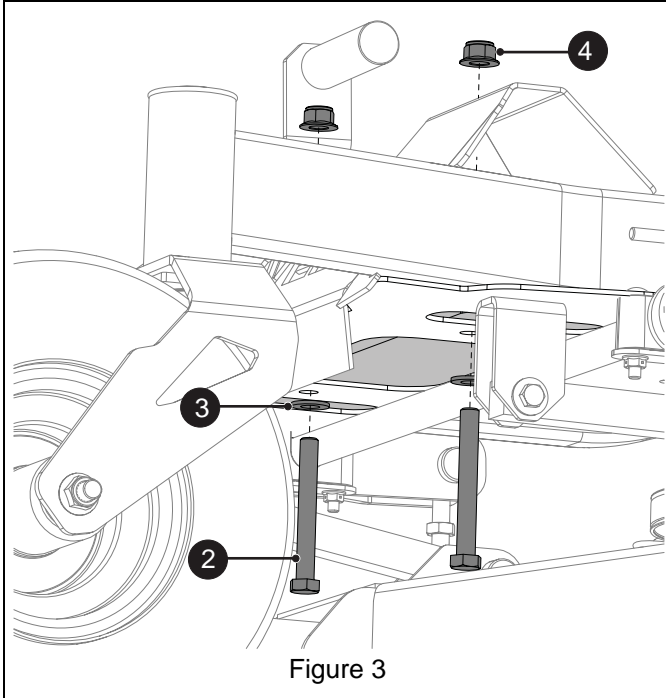

Figure 3
- Secure weight plates with two 1/2 x 4" hex bolts (item 2), two flat steel washers (item 3) and two 1/2" nylon locking flange nuts (item 4). See Figure 3.